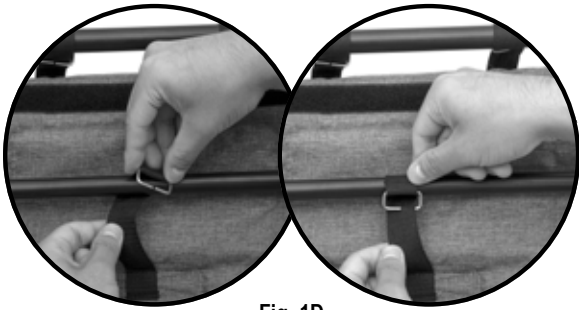

Fig. 1D
- Place each strap over the wagon frame and secure by pulling strap through the slit at the bottom of the C-ring (Fig. 1D). Do the same for wagon underside but attach to center of frame (Fig. 1F)